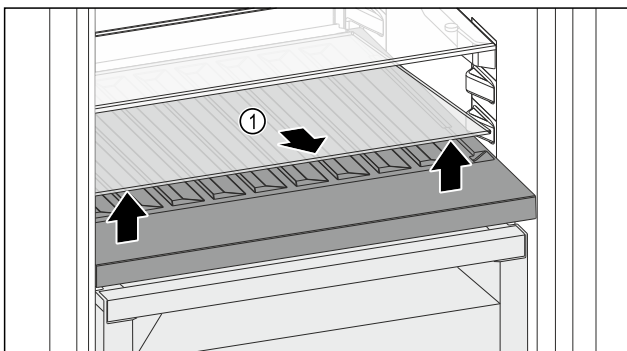

Fig. 144
- ▶ Lift the glass shelf Fig. 144 (1) at the front and remove.
- ▶ Store the glass shelf Fig. 144 (1) in a safe place outside the appliance.